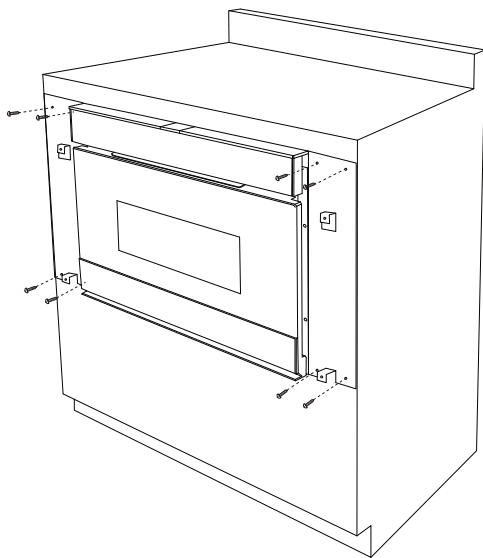

Figure 6
9. Using the 4 holes on each bracket as a template, pre-drill the cabinet using a 1/16" (1.6 mm) bit. Secure the mounting brackets to cabinet with the 8 bracket screws provided. See Figure 6.